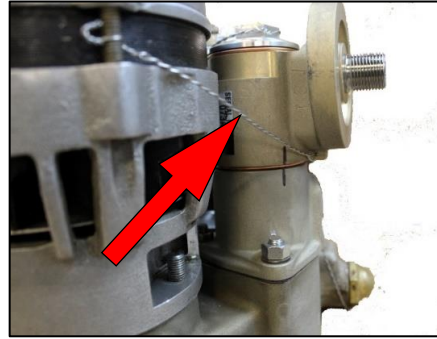

Figure 10
- b. Safety-wire the sleeve to a suitable location on the engine. Wrap the safety-wire around the sleeve below the filter mount flange and secure the wire to the engine in such a manner that the sleeve cannot rotate counterclockwise (loosening), see Figure 10.